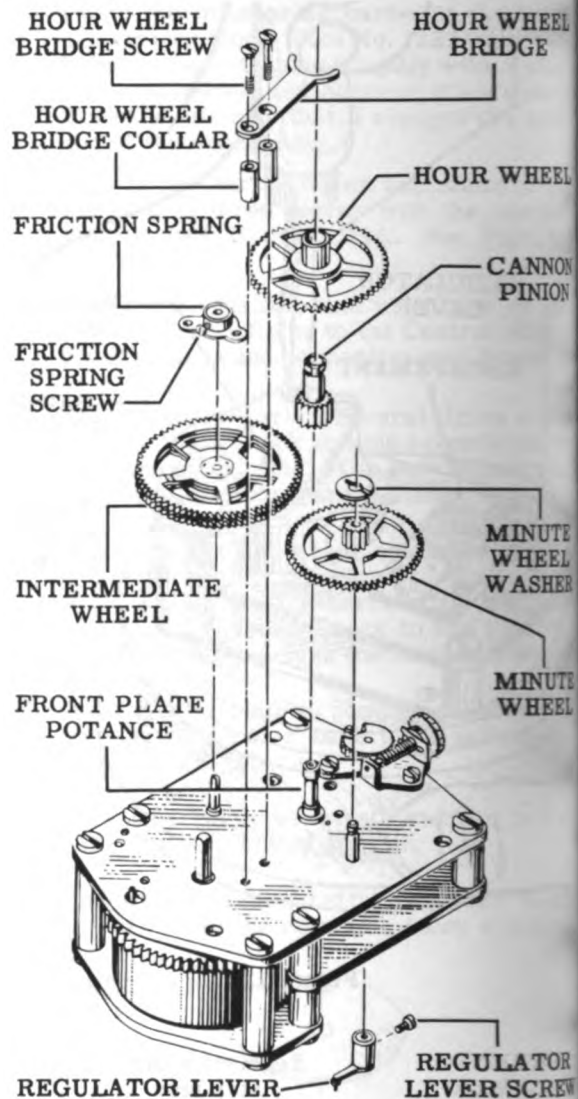
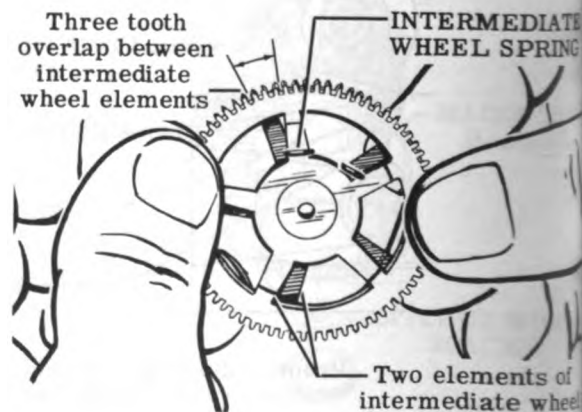

Figure 125
Figure 126
20. Slip the cannon pinion over the front plate potance. Put on the minute wheel. Refer to Fig. 125 for the proper position of the parts.
21. Place the intermediate wheel in position so that it engages the cannon pinion. The two elements of the intermediate wheel should be rotated three teeth in opposite directions, as shown in Fig. 126, before engaging the cannon pinion—the spring action of the two elements of the intermediate wheel acts to eliminate backlash. Fasten the intermediate wheel in position by placing the intermediate wheel friction spring over it and tightening the friction spring screw. Refer to Fig. 125.